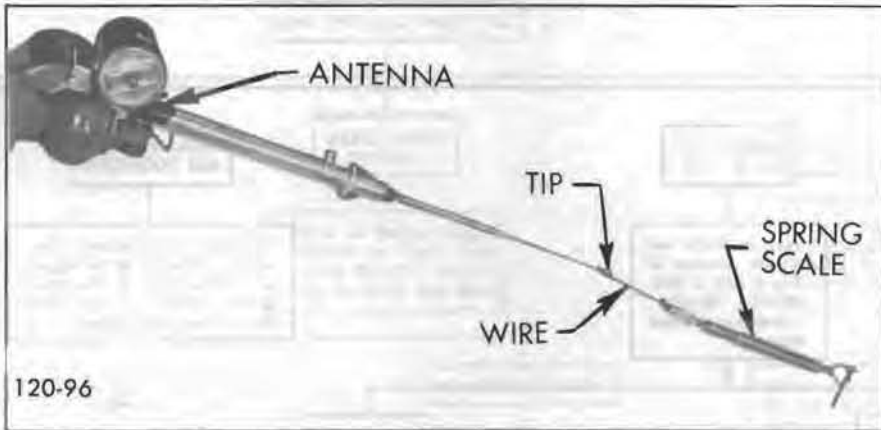

Figure 129-20—Antenna Adjustment Test
4. Connect one end of a wire securely to the mast just below the tip and the other end to a 25 lb. capacity spring scale. Secure the spring scale to the bench so that the centerline of the scale is in line with that of the mast assembly (see Figure 129-20).